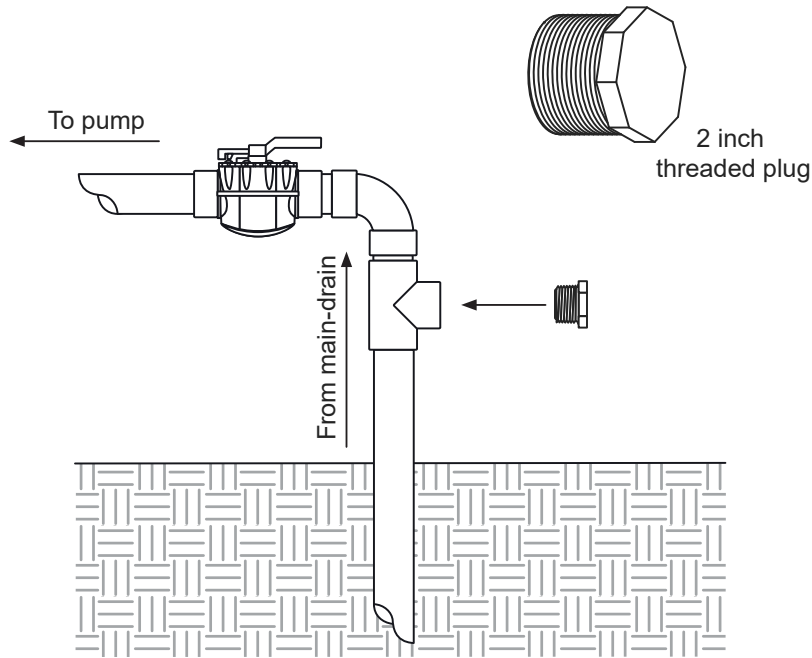
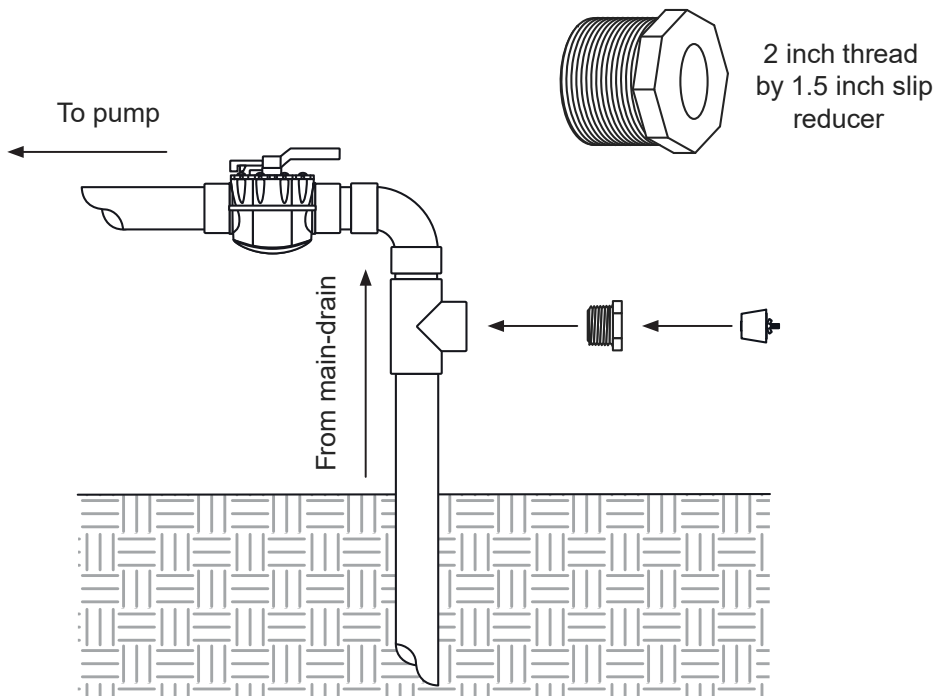

Figure 23.
Figure 24.
- Between the 2-Way shut-off valve and the drain, install a Tee fitting with a 2 inch threaded branch. This will allow a 2 inch threaded plug to be removed later during the winterization process (Figure 23).
- Remove the 2 inch threaded plug (Figure 23) and replace it with a 2 inch thread by 1.5 inch slip reducer bushing (Figure 24).